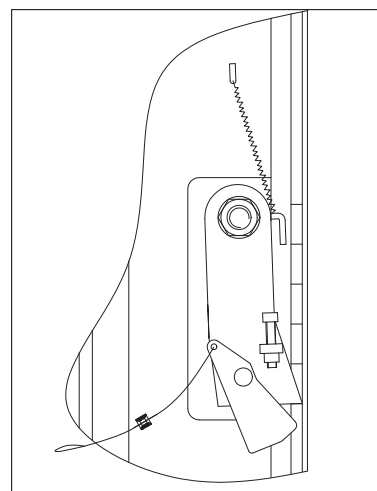

Fig. 16
- ◆ If the hydraulic cylinder breaks, the safety wedges will trip (**Fig. 16**), located inside the posts. The wedges are pushed by the spring and immediately stop the carriage preventing their descent.